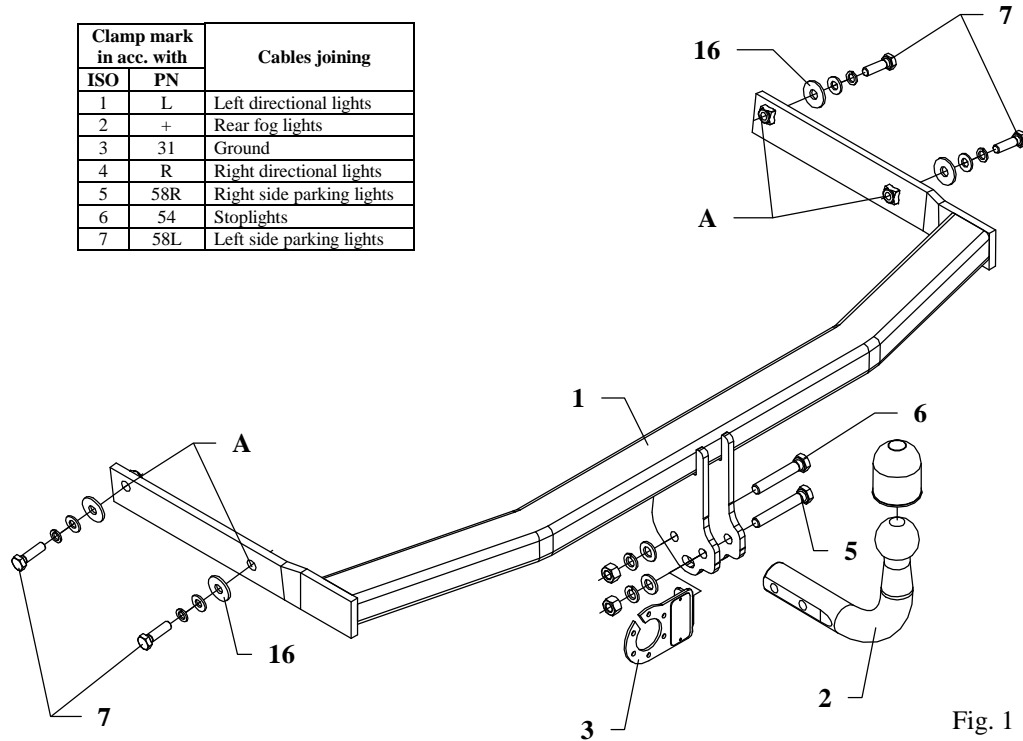

Fig. 1
5. Slip the main bar of the towing hitch (pos. 1) to chassis frame and fix it in points A using bolts M10x35mm (pos. 7) as shown on the figure 1. Use washers (pos. 16).
8. Fix tow-ball (pos. 2) with socket plate (pos. 3) using bolts M12x75mm (pos. 5) and M12x70mm (pos. 6) from accessories.